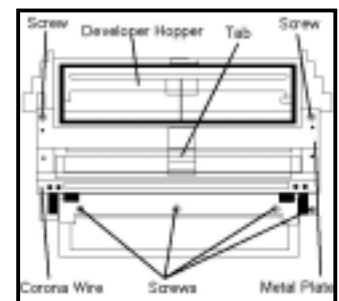

Figure 2
2. Vacuum out excess toner from developer well (Fig. 2).
3. Remove 3 screws (Fig. 2), remove metal plate & Corona contact.